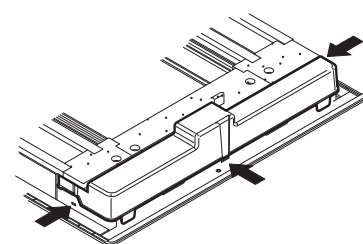

Fig. 3-2-10
- Attach the cover A until it is firmly engaged in the claws indicated by arrows. (Fig. 3-2-10)